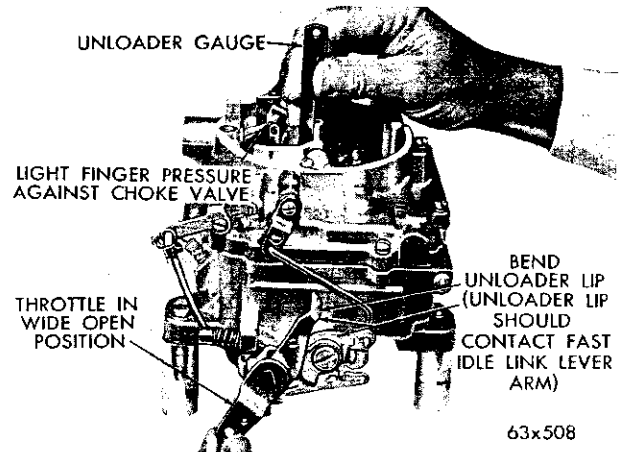

Fig. 51—Measuring the Choke Unloader
(1) With the throttle valves in the wide open position, it should be possible to insert Tool T109-80 (¾ inch) gauge between the upper edge of the choke valve and the inner wall of the air horn, as shown in Figure 51.
(2) If an adjustment is necessary, bend the unloader lip on the throttle shaft lever, using Tool T109-41, until correct opening has been obtained.